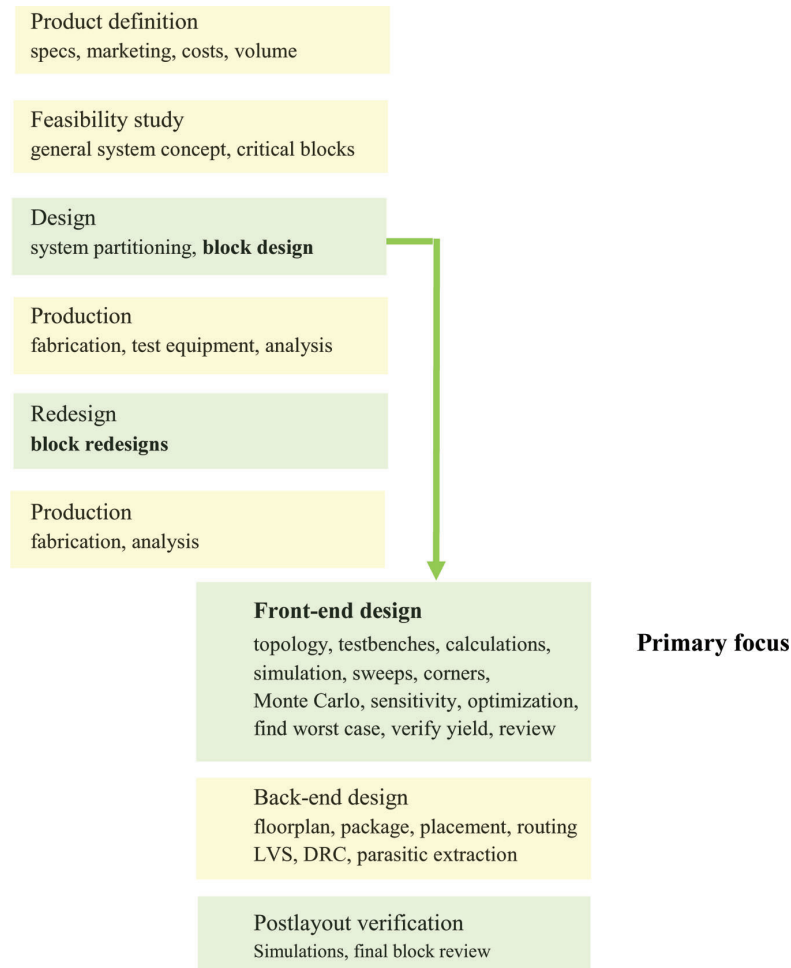

Figure 1 General IC design steps.
To follow this premise of circuit-oriented concept, let us start with a little sketch on an analog design. “Analog design” can have different meanings—our focus is analog design in its *widest* sense, including RF design and mixed-signal and custom digital designs. In a single book, you cannot describe each aspect in full detail from a bare semiconductor wafer to the final tested product. So we focus on what is often called design “front-end” flow, the part that includes defining the circuit in a schematic entry, setting up a simulation testbench, verifying the circuit behavior and checking specifications, plus tweaking the circuit component values; so in our methodological context, “front-end” has not the same meaning as in RF (radio frequency) or sensor design. A very typical approach in analog design is shown in Figure 1.
- To account for offset voltage, we may do a Monte Carlo (MC) analysis and get a certain standard deviation for it. With corners and MC, we could check the design quite well, and we can calculate the overall most extreme behavior; for example, we can add the offset errors from systematical and statistical imperfections (e.g., PSRR and random offset).
- All in all, at some point we might be completely in spec with enough margin and create a layout (“Back-end” part in Figure 1). From the layout, we can calculate wiring parasitics and we can include them in our simulations. If our initial design margins were large enough, also the postlayout verification would indicate that our design is really “ready for production” (tape-out). Hopefully, we included all important aspects to our verification, so that indeed also the production samples work as expected.